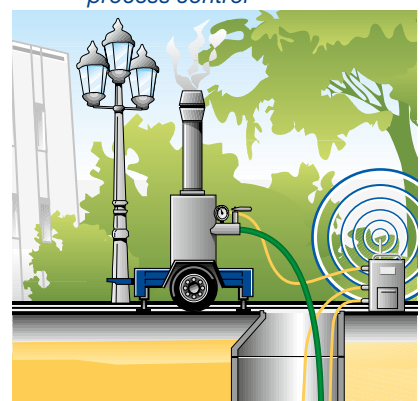

Fig. 4: Steam/water separator and data storage unit
5. Expanding and cooling the pipe (reversion) using compressed air. The pipe is pressed tight against the wall of the old pipe and fixed (close-fit). (Fig. 4)